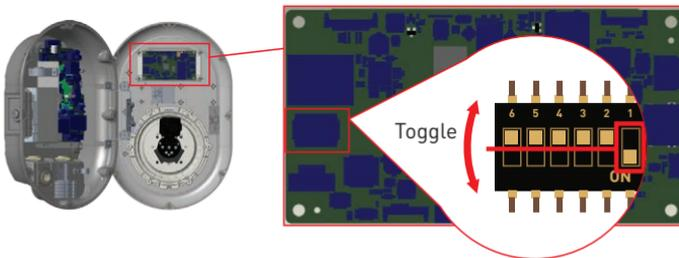

Figure.26
- Toggle the first position of DIP switch which is on the smart board of the charger shown in figure 26. After that please turn on the charger again.